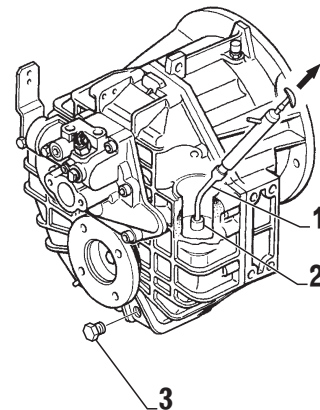

FIG. 1-2
Push hose of suction pump (item 1, Fig. 1-2) through the suction pipe (item 2, Fig. 1-2) down to the bottom of the housing and suck the fluid off.
Remove the plug (item 3, fig. 1-2) and let the oil flow from the proper hole.